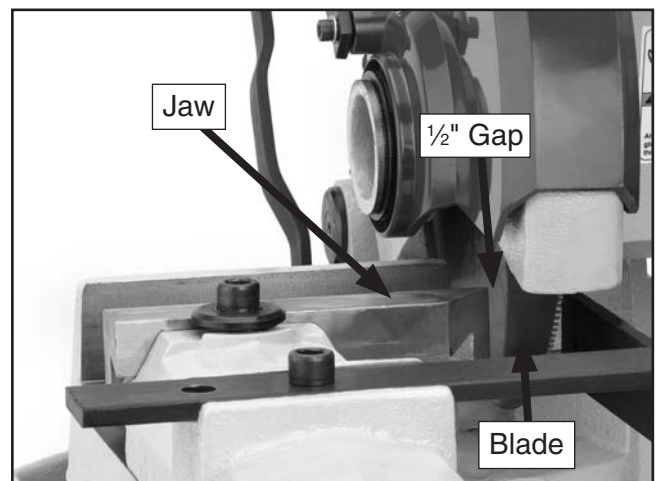

Figure 26. Setting blade clearance.
5. Slide the jaw so that it is approximately $\frac{1}{2}$ " away from the blade (**Figure 26**).